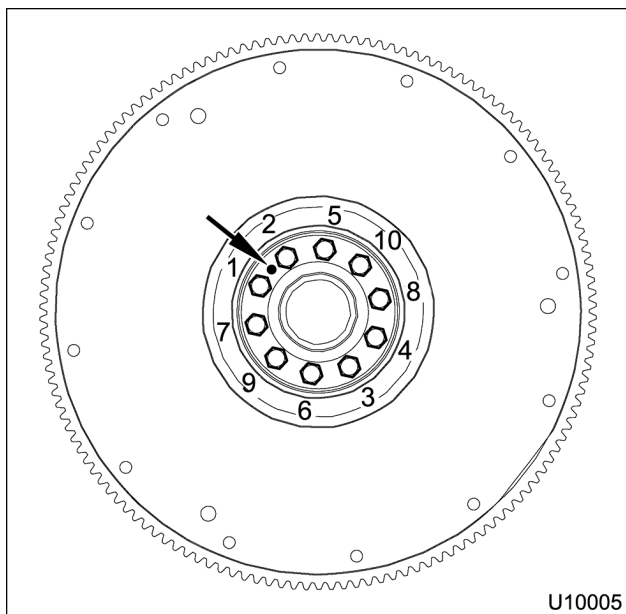

Figure 515 Torque sequence for flywheel assembly bolts and dowel location
6. Snug all bolts in sequence shown (Figure 515) to initial torque of 4 N·m (35 lbf·in).
7. Tighten all bolts in sequence shown (Figure 515) to final torque of 94 N·m (69 lbf·ft).